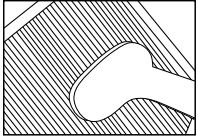

Fig. 8
4. Use the brush attachment with your vacuum cleaner. Run the attachment along both sides of the True HEPA filters, cleaning thoroughly between the accordion folds of the filters. Fig. 8